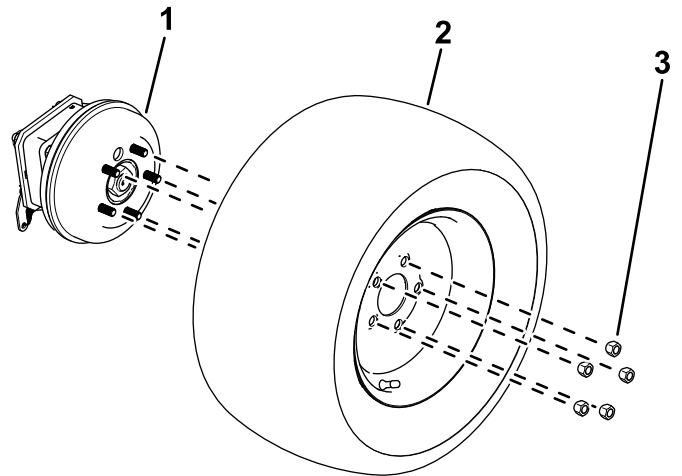

Figure 11
1. Loosen and remove the wheel lug nuts (Figure 11).
2. Removed the wheels from the wheel hubs (Figure 11).
1. Use the previously-removed lug nuts to secure the tires to the wheel hubs (Figure 11).